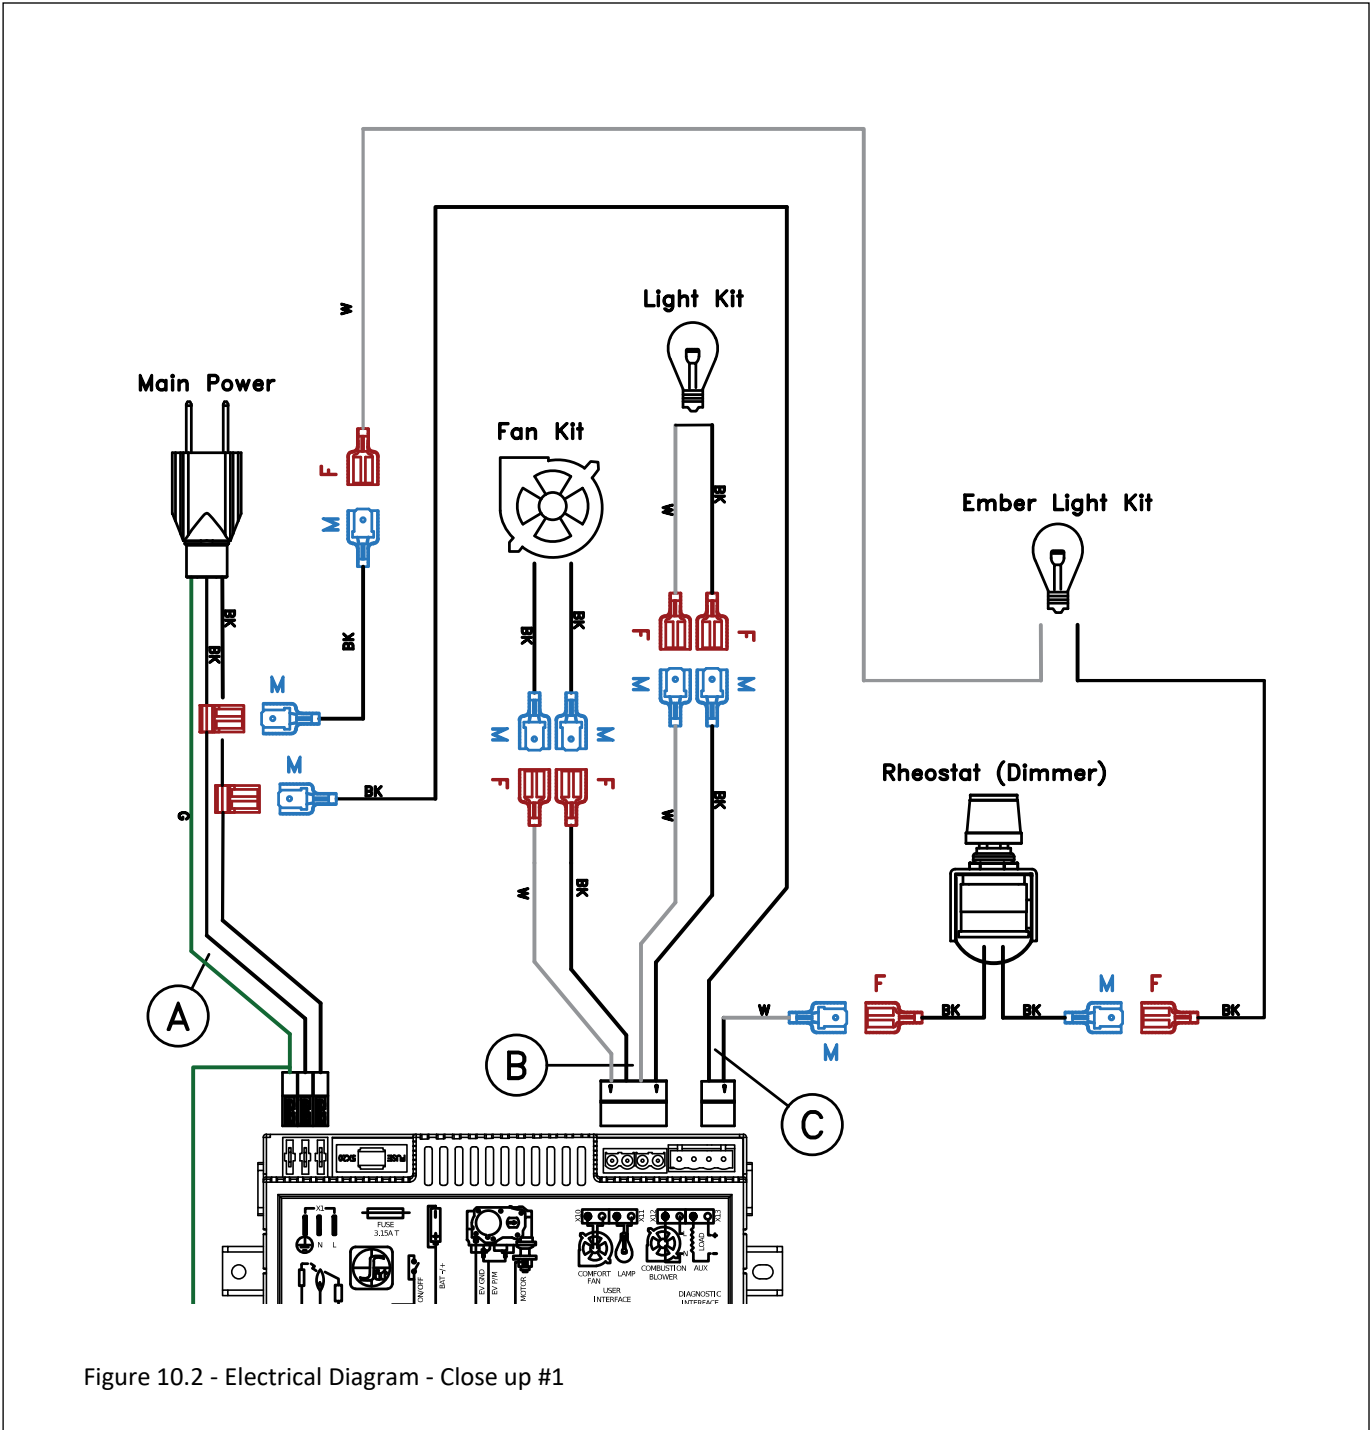

Figure 10.2 - Electrical Diagram - Close up #1
- Figure 10.2 shows a close up of the wiring diagram. This figure shows the main power cord, fan kit, top light kit, and ember bed light kit.